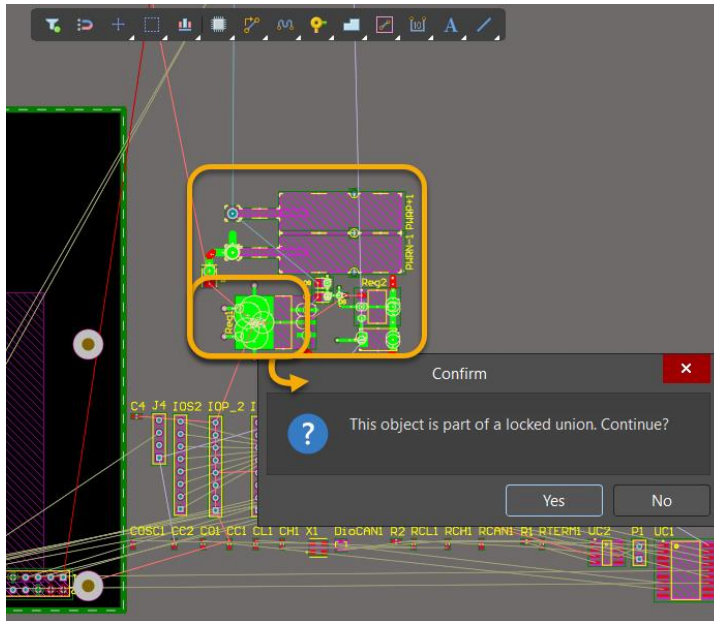

Figure 8. Reg1 member of the Union Power Supply WCTopping reuse block
29. A message to confirm that you want to continue the move command pops up, accept with YES, Figure 8.